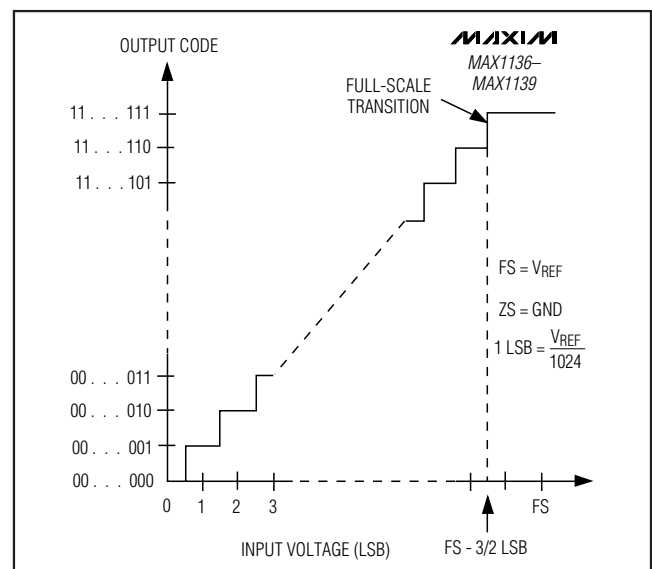
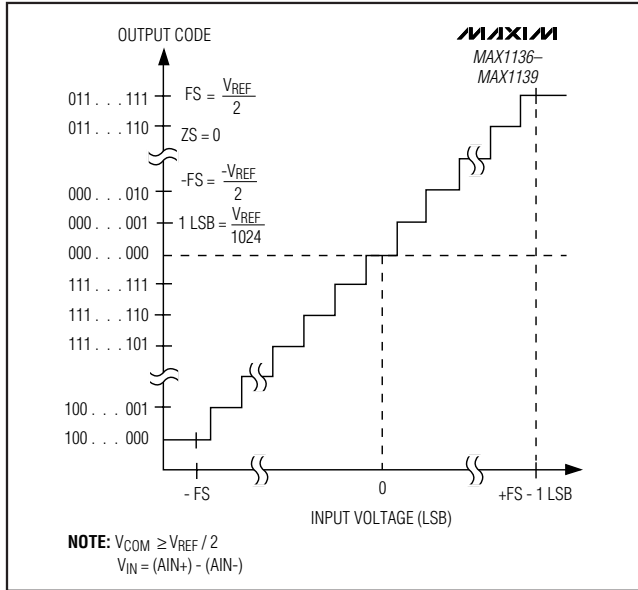

Figure 12. Unipolar Transfer Function
Figure 13. Bipolar Transfer Function
Output data coding for the MAX1136–MAX1139 is binary in unipolar mode and two's complement in bipolar mode with 1LSB = (V_{REF}/2N) where 'N' is the number of bits (10). Code transitions occur halfway between successive-integer LSB values. Figure 12 and Figure 13 show the input/output (I/O) transfer functions for unipolar and bipolar operations, respectively.